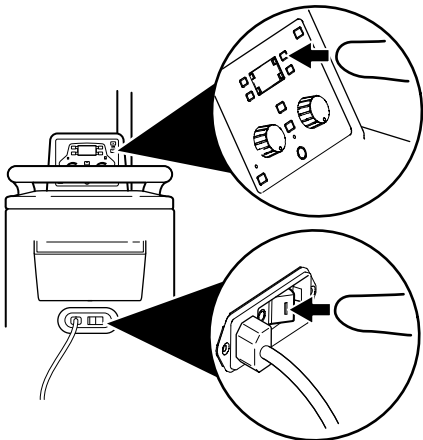

Figure 9 To Access System Setup
- 3. Push the control panel display button and the power button to ON simultaneously (see figure 9).